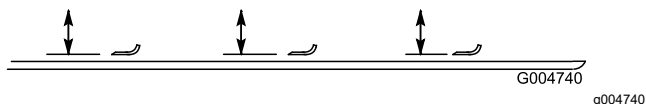

Figure 89
2. Rotate the blade until the ends face forward and backward and measure from the inside of the cutting unit to the cutting edge at the front of the blade (Figure 89).